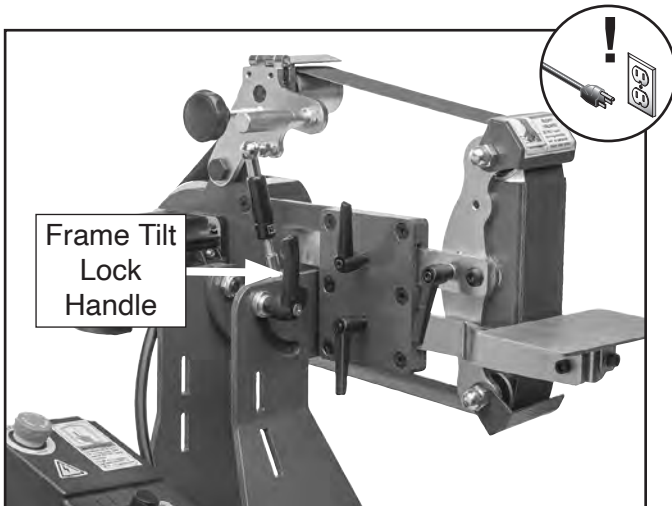

Figure 22. Location of frame tilt lock handle.
2. Loosen frame tilt lock handle (see **Figure 22**), adjust frame tilt as desired, then tighten handle to secure.